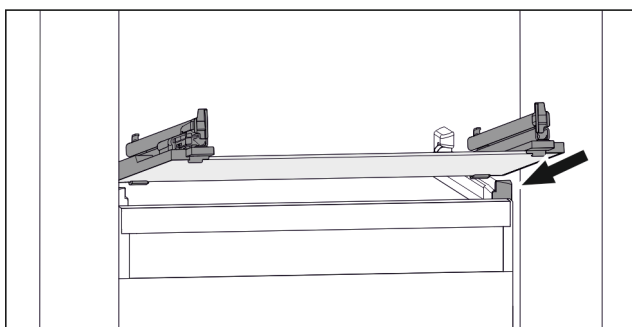

Fig. 52 Example illustration of glass shelf
- Position glass shelf at an angle behind the stoppers. (see Fig. 52)